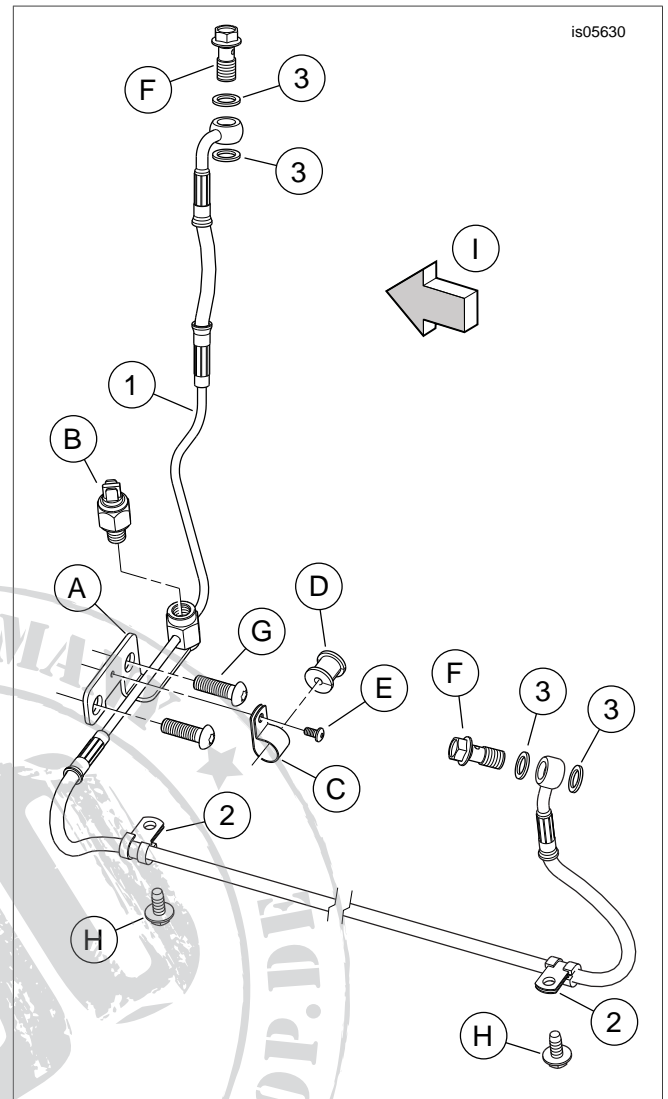

Figure 6. Service Parts, XR1200 Braided Rear Brake Line Kit
12. See Figure 6. Install the brake line banjo fitting to the master cylinder, using a sealing washer (3) from the kit on each side of the fitting. Insert one of the banjo bolts (F) saved earlier through the washers and fitting. Thread the bolt into the master cylinder, but do not fully tighten at this time.
17. Open up the two cushioned P-clamps (1 and 2) and wrap them around the braided brake line in the orientation shown in Figure 4 and Figure 6.